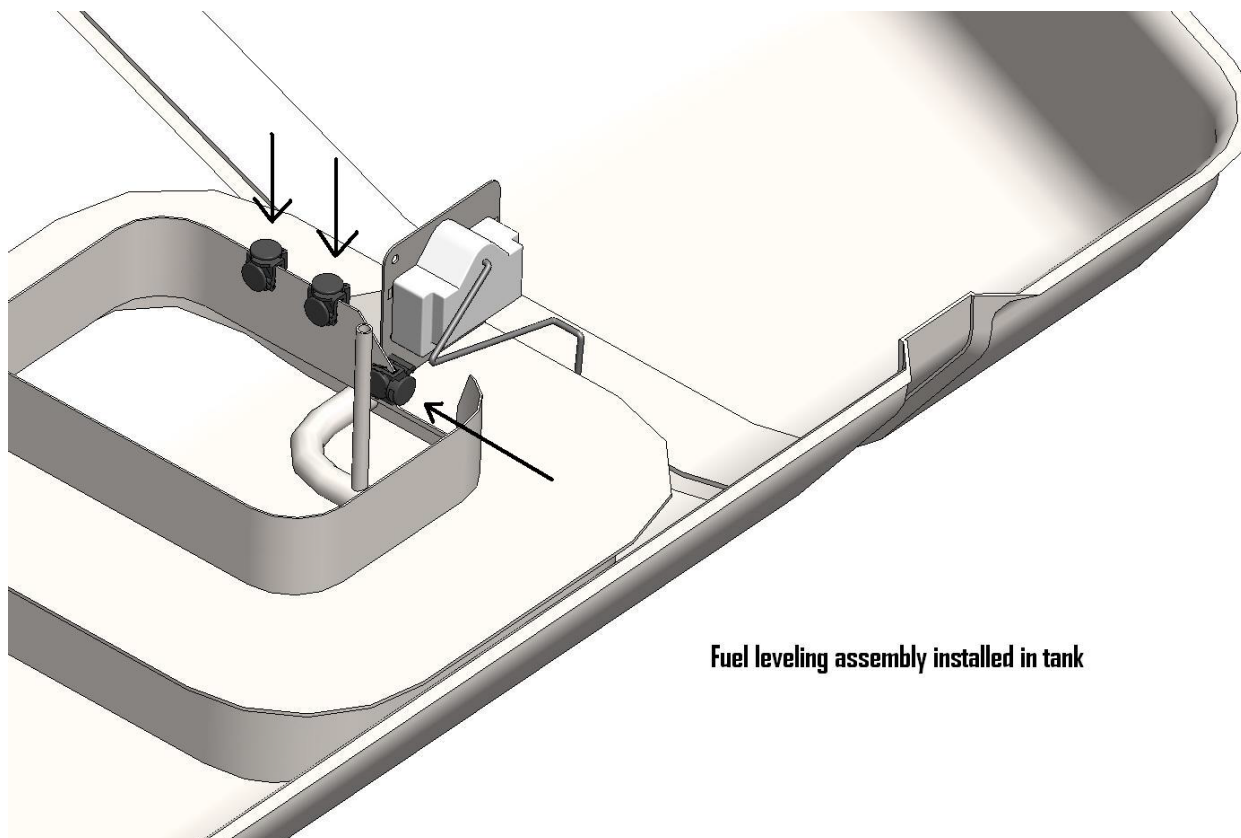

FIGURE 1-4
- 1-8. With the pump resting on top of the fuel tank, position the fuel level sender assembly into the tank as shown in **FIGURE 1-4**. With the fuel level sender bracket and the baffle walls butted up against each other. Push the provided edge clips into position to secure the fuel level sending unit bracket to the top of the baffle inlet wall.